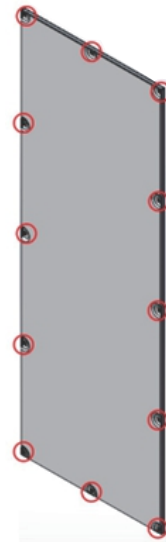

Figure 3
3. Pull the filter cotton assemblies outward and remove the fixing nuts for the filter cotton, see Figure 3.